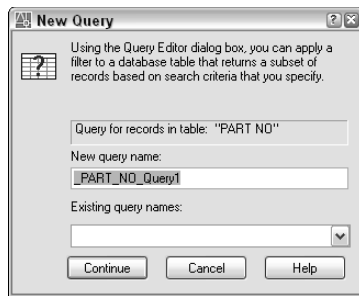

Figure 20-18: The New Query dialog box.
3. In the New Query dialog box, shown in Figure 20-18, type a name for the new query or accept the name that AutoCAD supplies. To base a query on an existing query, choose an existing query from the drop-down list. Click Continue.